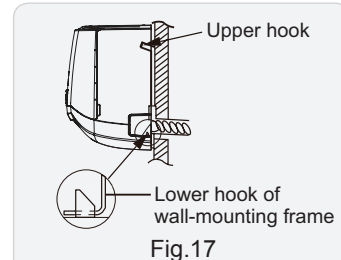

Fig.17
- (5) Check if the indoor unit is installed firmly and closed to the wall. (As show in Fig.17)